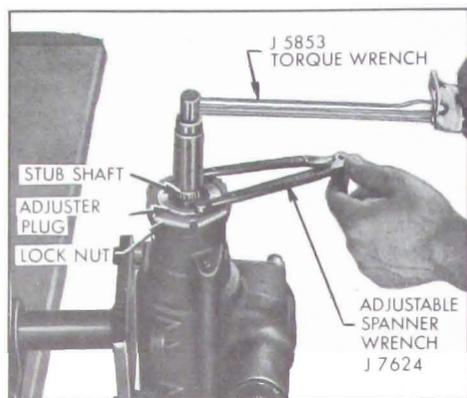

Figure 8-32—Adjusting Thrust Bearing Preload
2. Loosen adjuster plug locknut and back off adjuster plug approximately 1/8 turn with adjustable Spanner Wrench J-7624. Attach Torque Wrench J-5853 with 3/4 inch 12 point socket to stub shaft and turn shaft to approximately 1/2 turn from either extreme. Slowly rotate wrench in an arc approximately 60° (1/6 turn) in both directions several times to measure valve drag and record highest reading. See Figure 8-32. Then tighten adjuster plug until thrust bearing preload is 1 to 3 inch pounds in excess of drag measured with adjuster plug backed out. Total of thrust bearing preload and valve drag should not exceed 8 inch pounds.